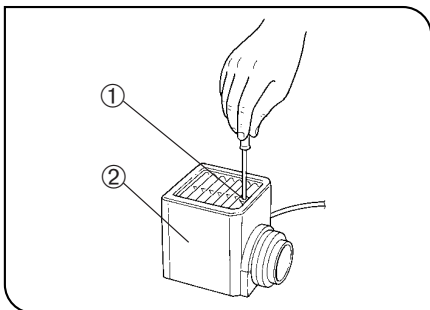

Fig. 35
### 1 Installing the Bulb (Figs. 35 - 37)
5. Slide the lamp housing cover onto the housing base from the above. Tighten the clamping screw ① while pressing downward on the cover. (Fig. 35)